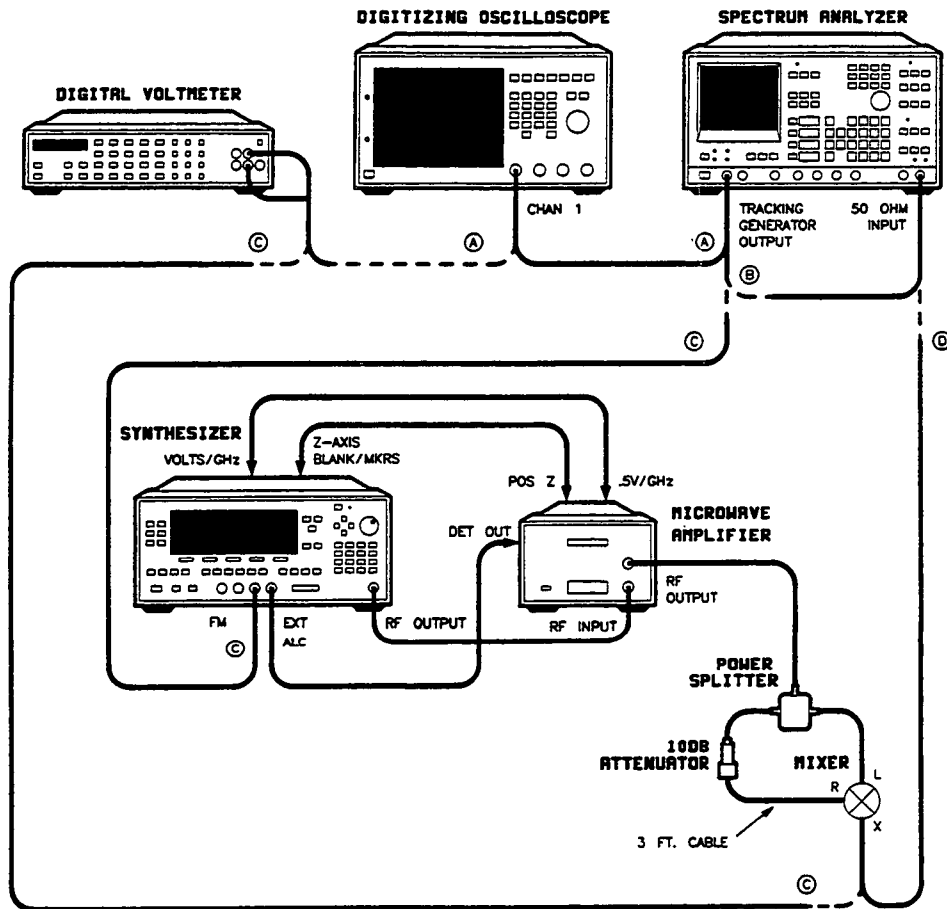

Figure 2-23. FM Bandwidth Test Setup
1. Connect the equipment as shown in figure 2-23 with the tracking generator output connected to the channel 1 input of the oscilloscope (A). A DVM can be used in place of the oscilloscope for RMS measurements. Preset all the equipment and let them warm up at least one hour.